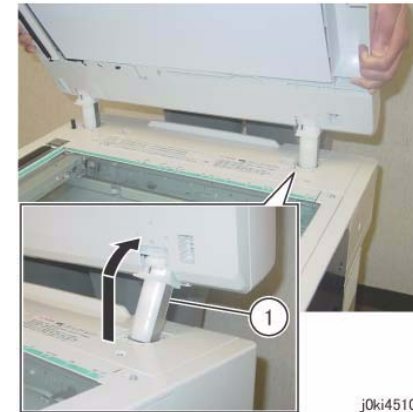

Figure 2 Remove the DADF
4. Remove the DADF. (Figure 2)